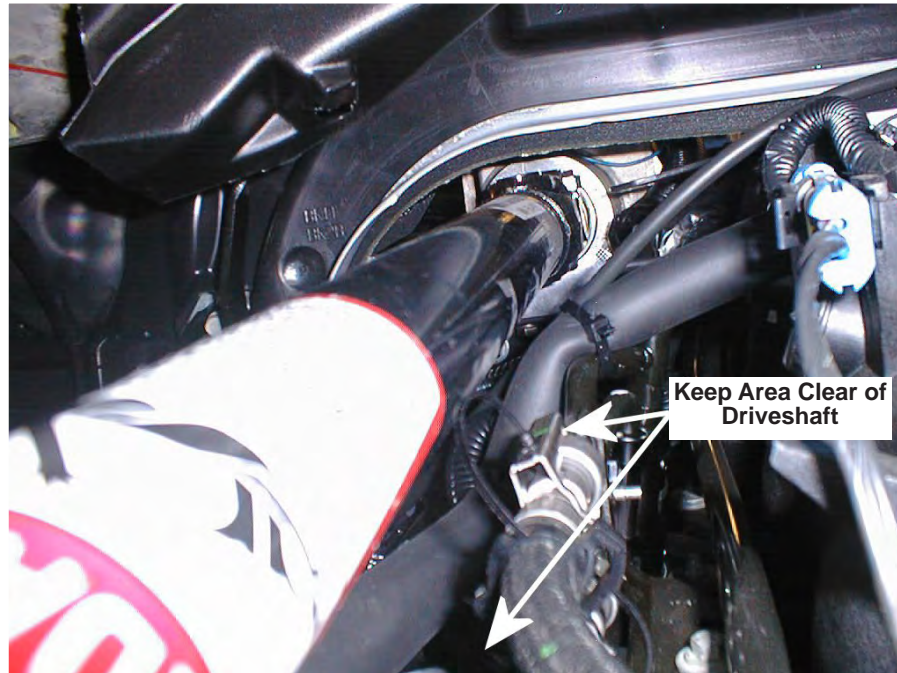

Figure 41. Slide Yoke into Drive Shaft
- a. Front to Back: Leave $\frac{1}{4}$ " between the jack shaft and the drive shaft yoke. This will allow for future removal of the drive shaft. Slide yoke onto jack shaft but do not tighten bolt yet (see Figure 41).